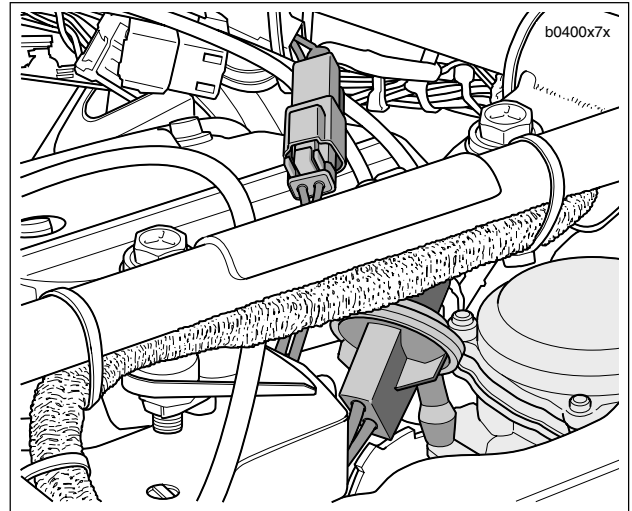

Figure 7-4. V.O.E.S.
2. See Figure 7-4. Disconnect V.O.E.S. connector [7] from wiring harness.
1. See Figure 7-4. Place a **new** V.O.E.S. on carburetor hose.